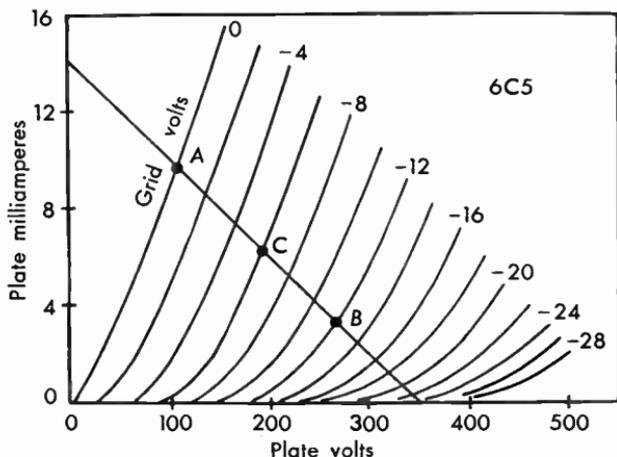

Fig. 4.11 Plate voltage-plate current characteristics of the triode type 6C5.
4.11 Using the $E_p - I_p$ characteristics of the type 6C5 (Figure 4.11), find the x and y intercepts of the load line for a plate load of $R = 25,000$ ohms and plot the load line by joining these points. The supply voltage is 350 volts.